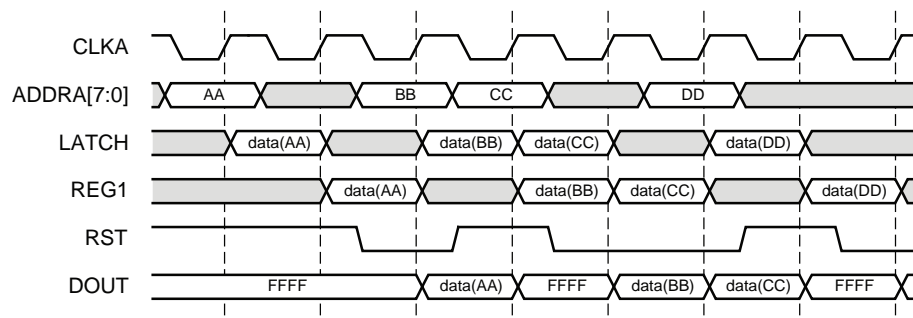
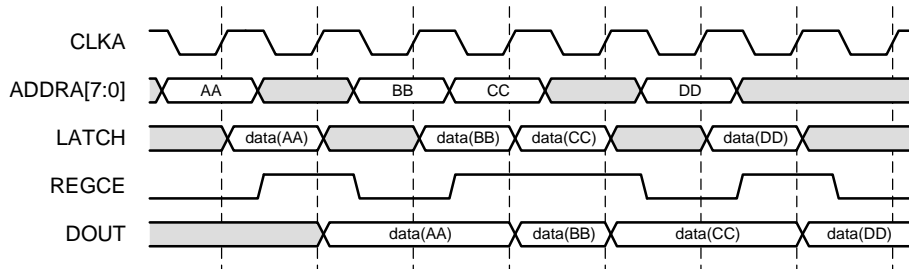

Figure 3-20: Flow Control Using RST
Figure 3-21: Flow Control Using REGCE
The combination of the enable (EN), reset (RST), and register enable (REGCE) pins allow a wide range of data flows in the output stage. Figure 3-20 and Figure 3-21 are examples on how this can be accomplished. Keep in mind that the RST and REGCE pins apply only to the last register stage.
Figure 3-20 depicts how RST can be used to control the data output to allow only intended data through. Assume that both output registers are used for port A, the port A reset value is 0xFFFF, and that EN and REGCE are always asserted. The data on the block RAM memory latch is labeled LATCH, while the output of the block RAM embedded register is labeled REG1. The output of the last register is the output of the core, DOUT.
Figure 3-21 depicts how REGCE can be used to latch the data output to allow only intended data through. Assume that only the memory primitive registers are used for port A, and that EN is always asserted and RST is always deasserted. The data on the block RAM memory latch is labeled latch, while the output of the last register, the block RAM embedded register, is the core output, DOUT.